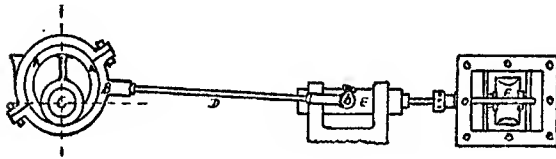

FIG. 79.—PLAIN ECCENTRIC VALVE GEAR.
**Valve Gears.**—There are a number of valve gears on the market and nearly all of them are used on the different makes of farm engines. The simplest form of valve gear is illustrated in Fig. 79 connected to a plain slide valve. This valve gear is not reversible and is, therefore, only used on portable engines as they only run in one direction. The gear can be reversed but only by resetting it. In the cut A is the eccentric; B the eccentric yoke; C the main shaft; D the eccentric rod; E the valve slide, and F the valve.